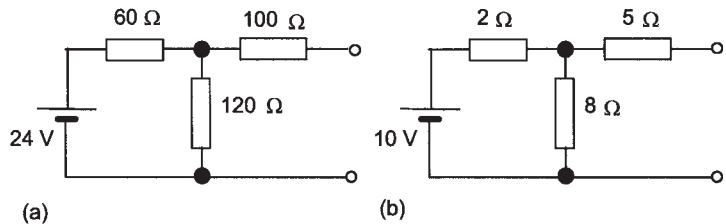

Figure 18.36 Problem 1
- 1 Determine the Thévenin equivalent networks for the networks shown in Figure 18.36.
- 5 Determine the Norton equivalent networks for the networks shown in Figure 18.36.